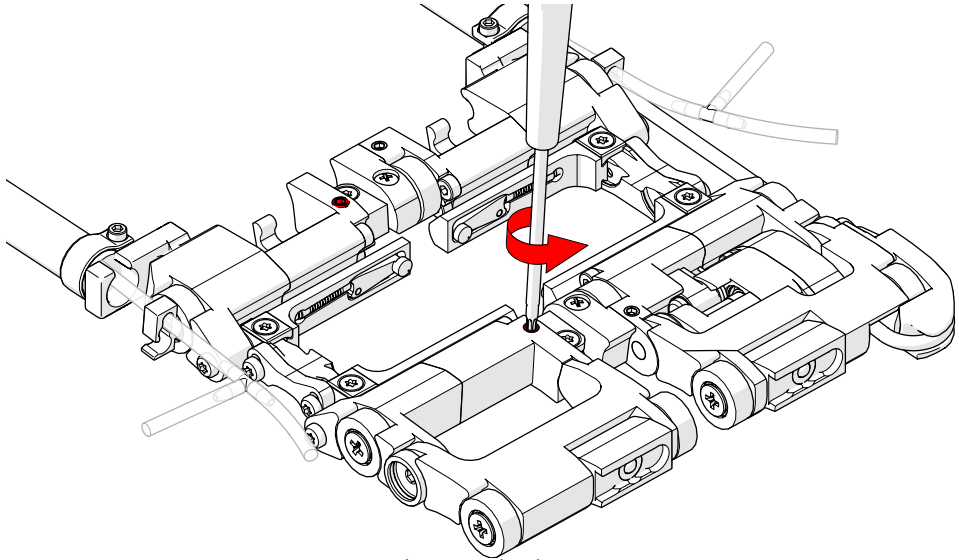

Fig. 79 - Loosen crossbar clamp screws
1. Use the Torx® driver (Fig. 22) to loosen the two crossbar clamp screws (Fig. 79).